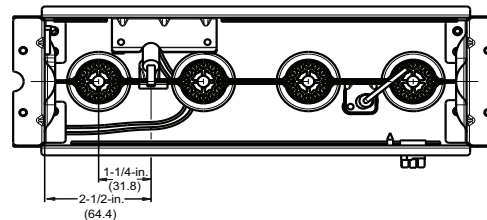
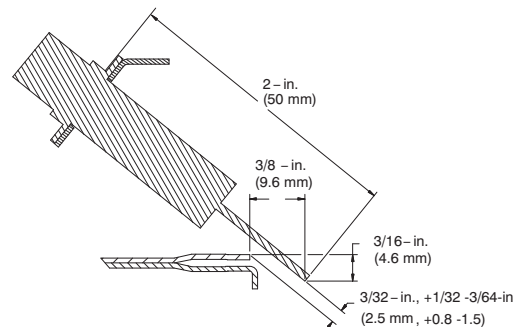

Fig. 9 – Igniter Position - Back View
Fig. 10 – Igniter Position - Side View
4. Verify igniter to burner alignment, see Fig. 9 & Fig. 10.